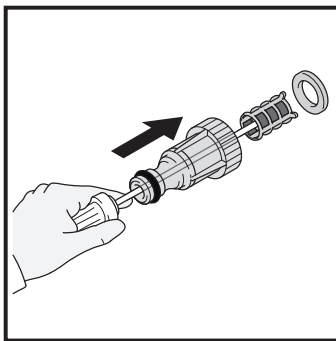

Fig. 22
- The screen inside the clear adapter should be cleaned periodically. Insert a pen or pencil in small hole at the end of the adapter. The screen filter will slide out (**Fig. 22**). Rinse it with clean water, and then place it back in the adapter..